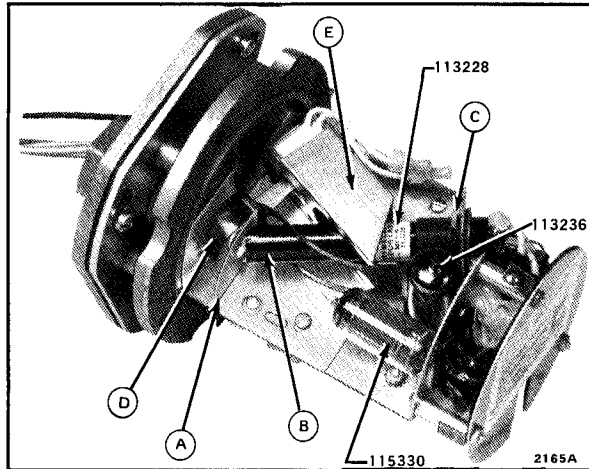

FIG. 17—INTERNAL VIEW OF THE C7012 SHOWING THE LOCATION OF THE TUBES.
3. To remove the UV sensing tube, Part No. 113228, see Fig. 17.
- a. Bend alignment guide (A) enough to free tip of UV tube (B).
- b. Insert screwdriver between tube base and socket at point (C). Gently pry tube out of socket.